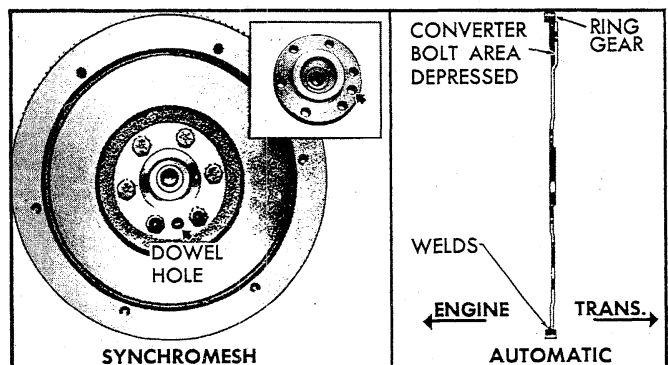

Fig. 20L - Flywheel Installation (Typical)
2. Install flywheel on crankshaft and position to align dowel hole of crankshaft flange and flywheel (fig. 20L).
NOTE: On Automatic Transmission equipped engines, the flywheel must be installed with the flange collar to transmission side (fig. 20L).